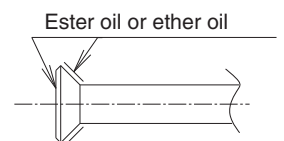

Fig. 7
- Apply ester oil or ether oil to flare section (both inside and out) when using flare nut connections and then turn 3 or 4 times by hand. (Refer to Fig. 7)